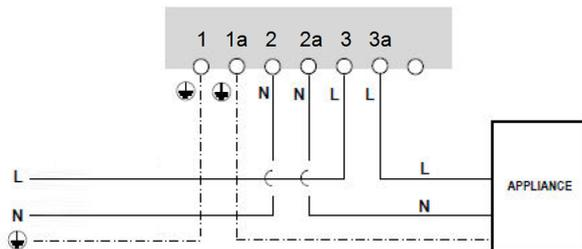

Figure 5: Connecting to appliance
5. Connect the load wires to the terminal blocks (see Figure 4, and Figure 5).